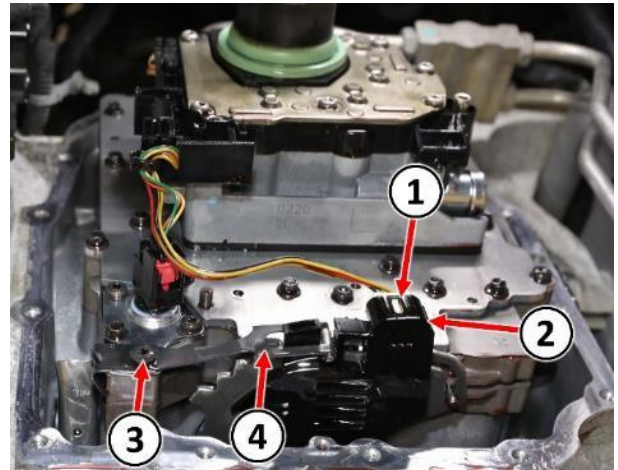

Figure 13 – Range Sensor Connector and Detent Spring
21. Disconnect the electrical connector (1) from the range sensor (2) (Figure 13).
22. Remove the bolt (3) holding the detent spring (4) (Figure 13).
23. Remove the detent spring (4) (Figure 13).